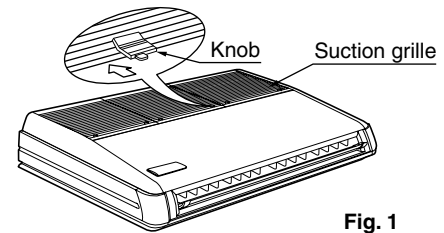

Fig. 1
- Slide the locking knobs (x2) on the suction grille inward (direction of arrows) and lift upwards. **(Refer to Fig. 1)**